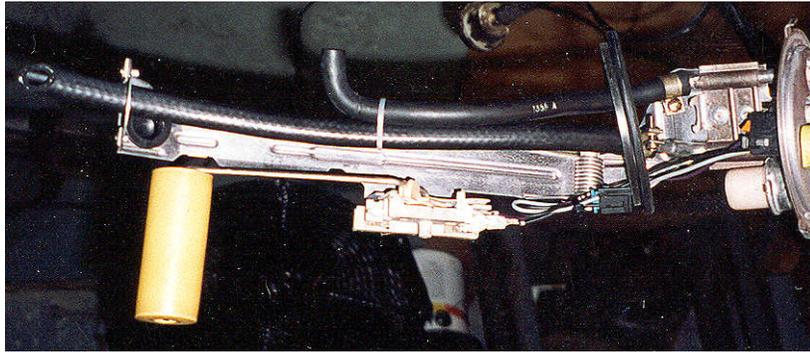

Figure 3
- 1-12. Place the uncut end of the 13-inch length of rubber fuel line on to the steel supply line. Push the rubber fuel line over the beaded area on the steel supply line and clamp in place using one of the supplied hose clamps, see figure 3.
- 1-13. Using the old fuel pump canister vent line which was removed earlier, this is the black rubber line with a molded 90 degree bend on one end, slide the straight end of this hose on the steel return line and clamp in place using one of the supplied hose clamps. See figure 3 for details.
- 1-14. Using one of the supplied tie wraps secure the two rubber fuel lines together as shown in figure 3.